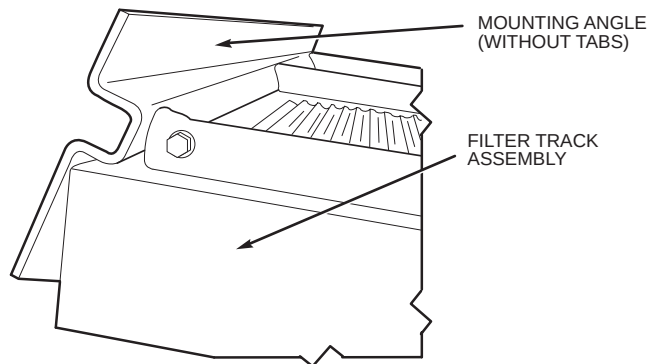

Fig. 23 — Mounting Angle (Without Tabs) Attached to Filter Track Assembly
13. Attach mounting angle (without tabs) to the assembled end of the filter track. See Fig. 23.